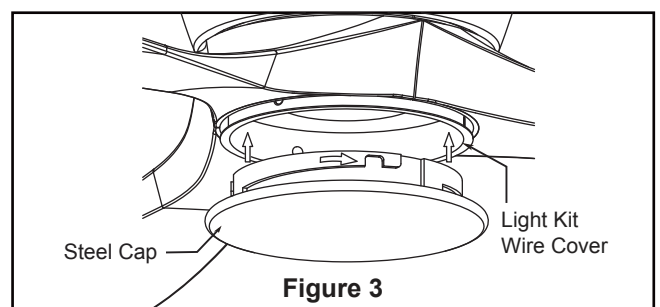

Figure 3
3. Assemble the steel cap to the light kit wire cover by twisting in a clockwise direction. (Figure 3)
- 3.** To make fan operational, install 23A/12V battery (included) in hand-held remote transmitter, with fan power off. Then follow the remote code setting process. (If not used for long periods of time, remove battery to prevent damage to transmitter). Store the remote away from excessive heat or humidity. (Figure 3)